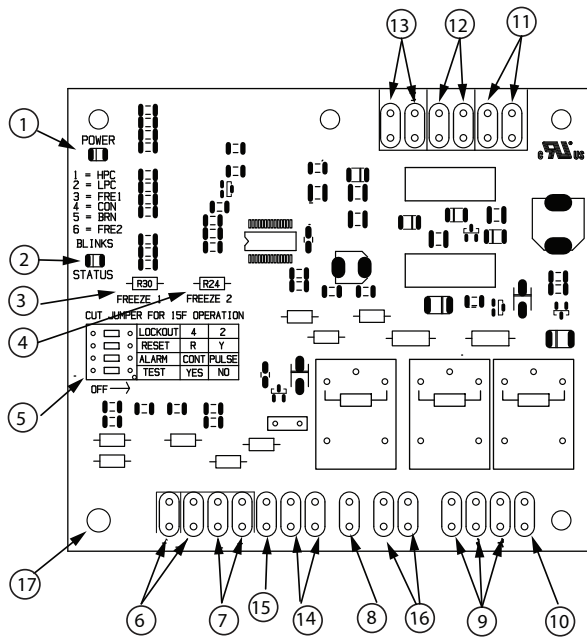

Fig. 17 — Complete C Control Board
SAFETY DEVICES AND COMPLETE C CONTROL — Each unit is factory provided with a C board controller that controls the compressor operation and monitors the safety. See Fig. 17.
- Complete C board dry contacts are normally open (NO).
- Water-side freeze protection sensor, mounted close to condensing water coil, monitors refrigerant temperature between condensing water coil and thermal expansion valve. If temperature drops below or remains at freeze limit trip for 30 seconds, the controller will shut down the compressor and enter a soft lockout condition. The default freeze limit trip is 30 F, however this can be changed to 15 F by cutting the R30 or Freeze1 resistor located on top of DIP switch SW1. Refer to Fig. 17, Item 3 for resistor location. If unit is employing a fresh water system (no anti-freeze protection), it is extremely important to have the Freeze1 R30 resistor set to 30 F in order to shut down the unit at the appropriate leaving water temperature and protect heat pump from freezing if a freeze sensor is included.